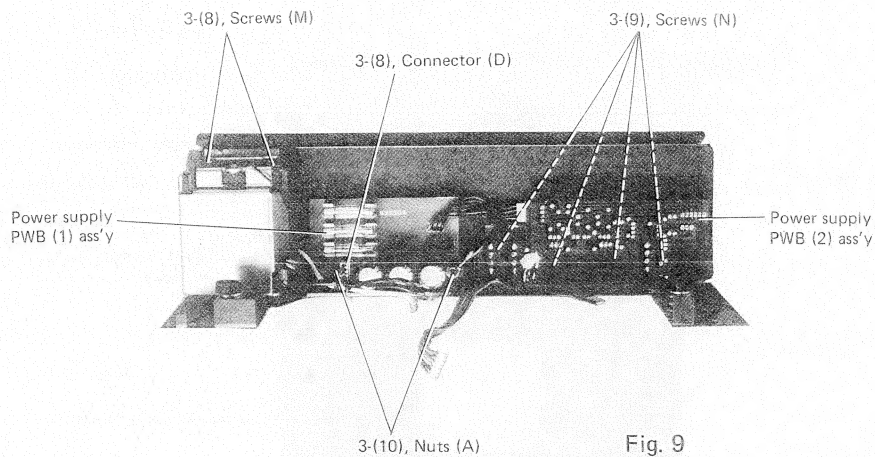

Fig. 9
- (8) Dismount power transformer. (See fig. 9)
- (10) Remove 2 pcs. of nuts (A) so that power supply PWB (1) is dismantled. (See fig. 9)
**Note:** In case of 4 voltage version, change-over switch can be dismantled by removing 2 pcs. of screws (D).